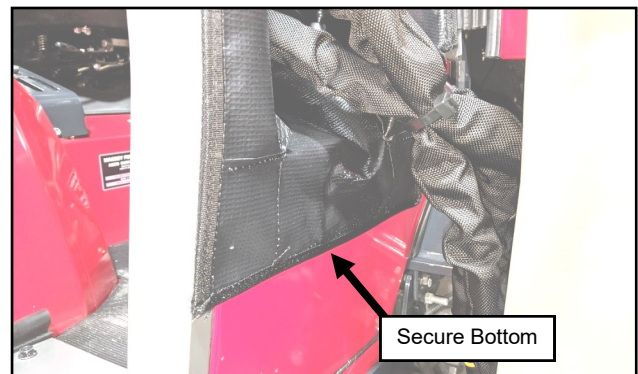

Fig. 20.8 (Secure Bottom Of Filler)
- 20.8 Secure the bottom edge of the filler. See Figure 20.8.